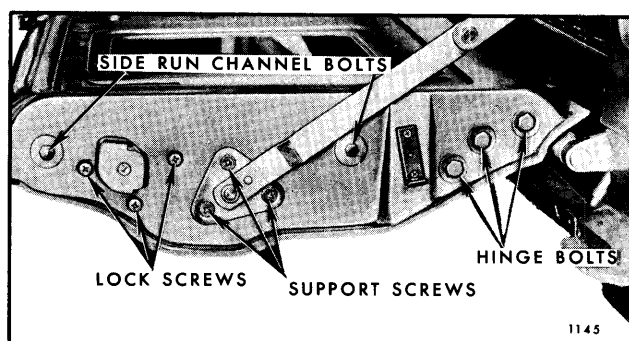

Fig. 9-17—Tail Gate Lock and Support - "B" Body Styles
3. Remove screws securing lock to tail gate (Fig. 9-17 and Fig. 9-7).